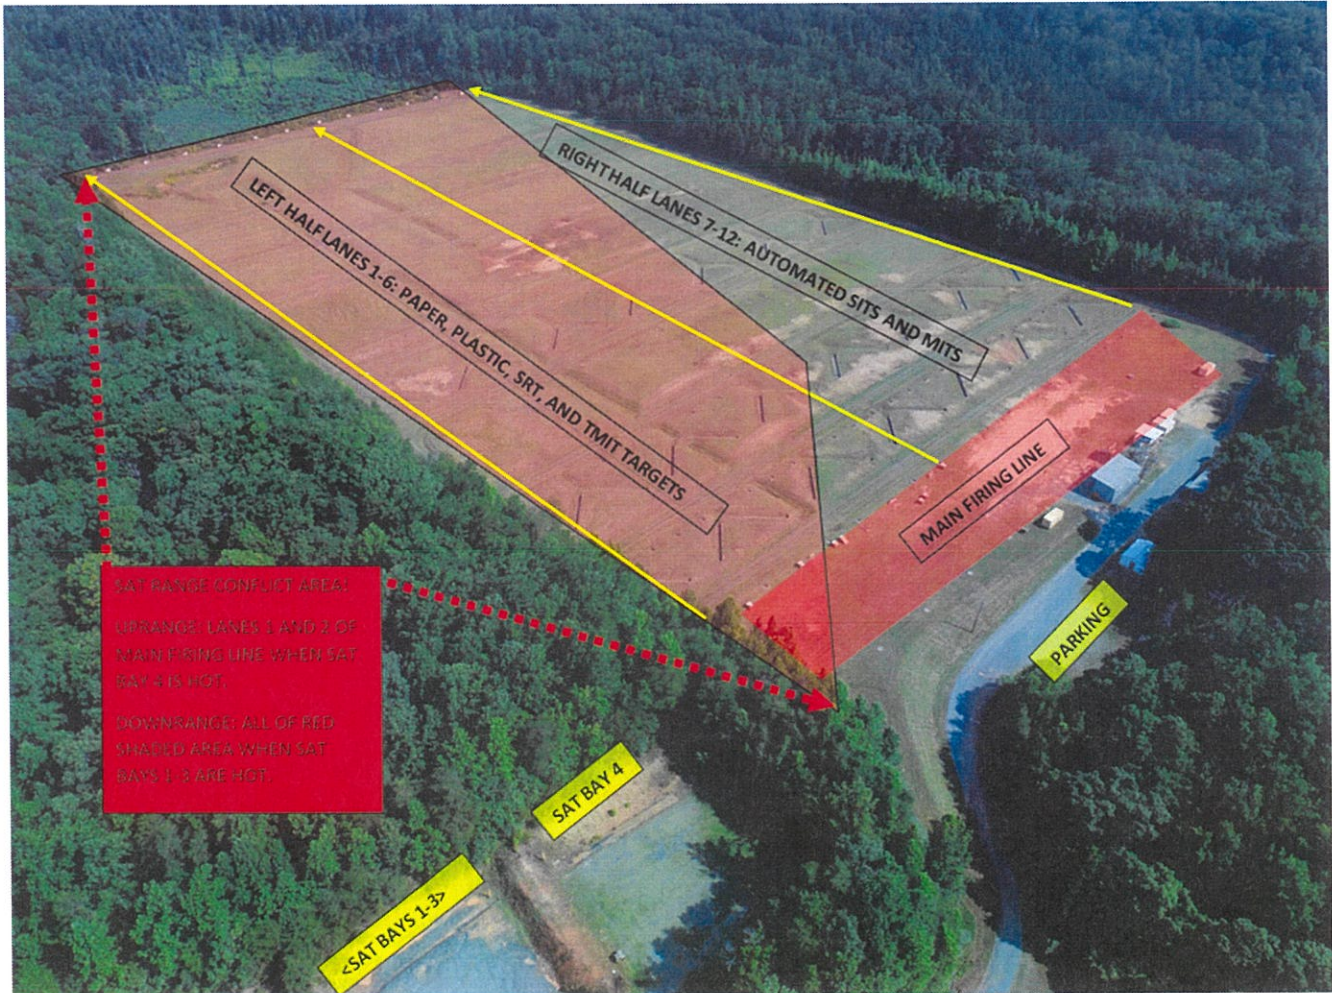

FIGURE-1
-The range has (12) lanes marked by Black or White number boards located at the far end down range and is divided into two 60m x 445m areas with (6) lanes each:
-The **Left Half** (lanes 1-6) are designated for unit provided paper, plastic, steel reactive targets (SRTs) and requested Trackless Mobile Infantry Targets (TMITs). (Figure-1)
-The **Right Half** (lanes 7-12) are designated for use of the Stationary Infantry Targets (SITs) and Mobile Infantry Targets (MITs) **only**. (Figure-1)
-Placement of all additional targets on the Right Half of Ironman (Figure-1) requires prior approval from Range Control and must be done in strict accordance with Figure-5.
**Conflicts:** See Figure-1 and paragraph G-14 below.
- When SAT bay 4 is hot the firing line for TMITs is reduced to lanes 3-6 only as depicted in Figure-1.
14. WTBN SAT Range (to the left) conflicts with Ironman. (Figure-1)
- a. When Bays 1-3 of WTBn SAT Range are hot, personnel may not be downrange on Ironman forward of the main firing line as indicated in Figure-1. The main firing line consists of the flat area from the bleachers to the first terrain drop off moving down range.